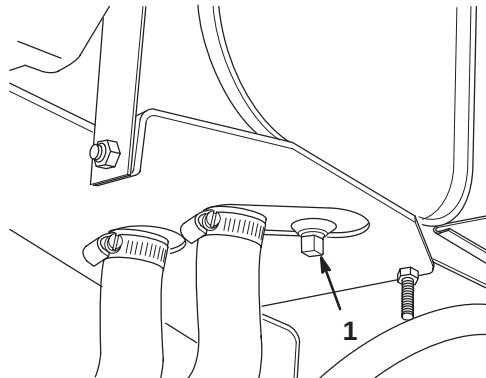

Figure 42
- Remove the drain plug from the reservoir (Fig. 42) and let hydraulic oil flow into a drain pan. Reinstall and tighten the plug when hydraulic oil stops draining.